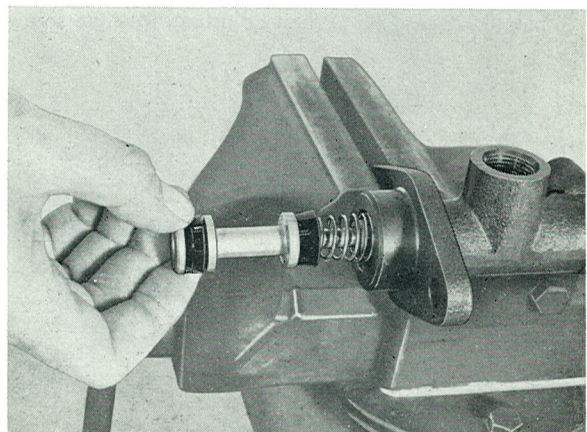
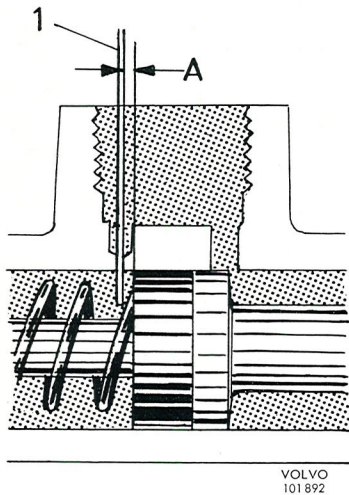

Fig. 5-49. Fitting the primary piston
Fig. 5-50. Checking the equalizing hole
Be careful when inserting the seals in the cylinder. Fit the new primary piston (Fig. 5-49). Press in the piston and fit washer (11) and circlip (12).
3. Check that the hole for the stop screw is clear and fit screw (18) and sealing washer (17). The tightening torque should be 1.3 kgm (9.5 lb.ft.)
4. Check the movement of the pistons and make sure that the through-flow holes are clear. The equalizing hole is checked by inserting a soft copper wire with diameter 0.5 mm (25 s. w. g.) through the hole, see Fig. 5-50. If the equalizing hole is not clear, then the master cylinder is generally wrongly assembled.